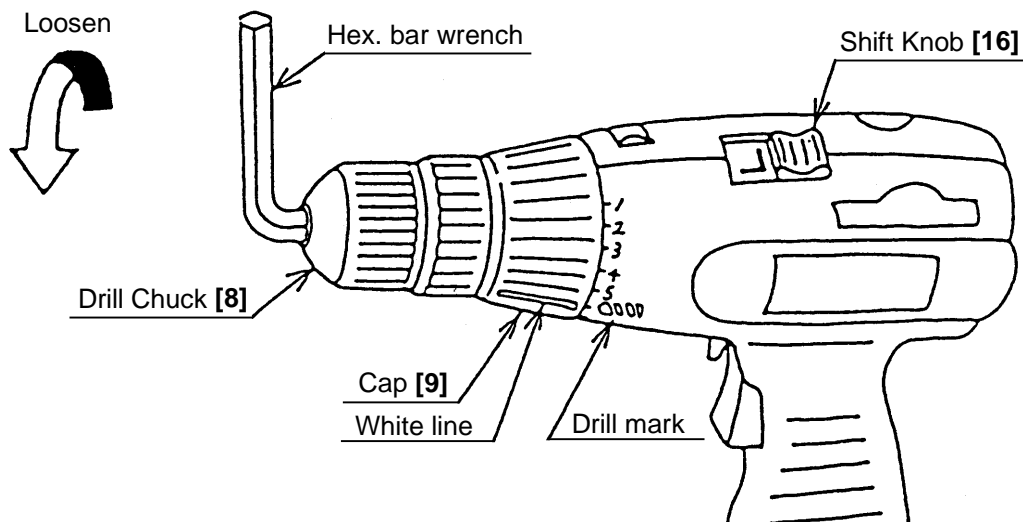

Fig. 7
##### (1) Removal of the Drill Chuck **[8]**: (Fig. 7)